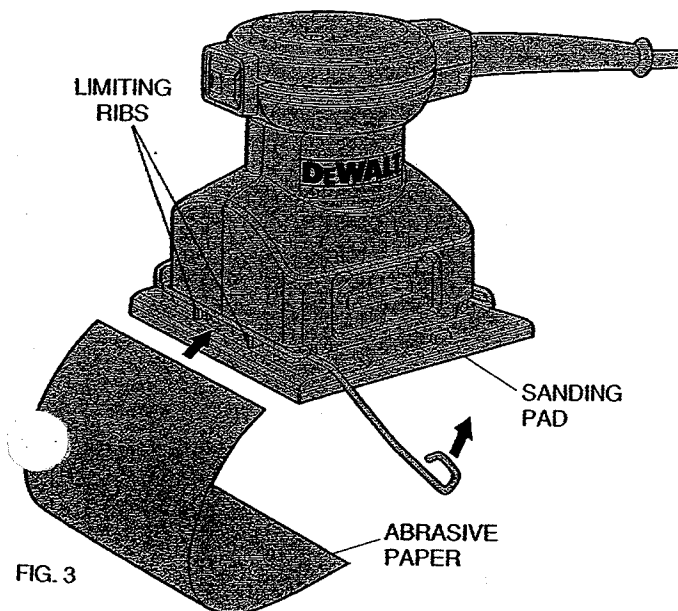

FIG. 3
- Insert the 4 1/2" edge of the abrasive paper under the front paper clamp, as shown in Figure 3 until it hits the paper limiting ribs shown in the figure. Close the front paper clamp and hook it into the lock position behind the tab on the base plate.